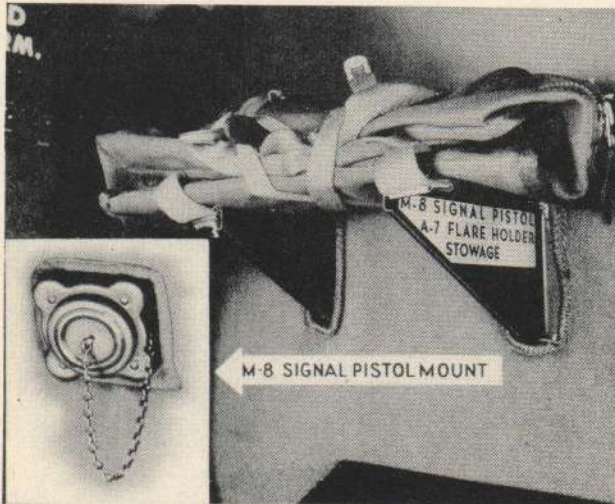

Figure 51—M-8 Flare Signal (Very) Pistol and Mount
b. PYROTECHNICS. — When craft are in a position to see signals, fire life raft pistol or any available pyrotechnics. A Very pistol is stowed on the left side of the aft bulkhead in the radio operator's compartment, and should be taken along when leaving the airplane, if possible. An M-8 flare signal pistol mount is located in the top of the fuselage, over the inboard end of the radio operator's table. The M-8 flare signal pistol must be placed in this mount, prior to being fired from within the airplane. (See figure 51.)
(1) The pilot will determine when this is advisable, and will warn the crew members, using the interphone set at "CALL," or by some other pre-arranged signal, and will operate the warning bells.
(2) If existing orders permit, the pilot and radio operator will follow the same procedure as in Preparation for Ditching.
(3) Each crew member will remove the individual seat-type life raft and chest-type parachute from their respective positions near his station, and snap them onto his QAC harness. A life vest should be worn under the QAC harness on all overwater flights. The lanyard on the seat-type life raft should be snapped onto the D-ring of the life vest.
(4) All emergency exits will be opened.